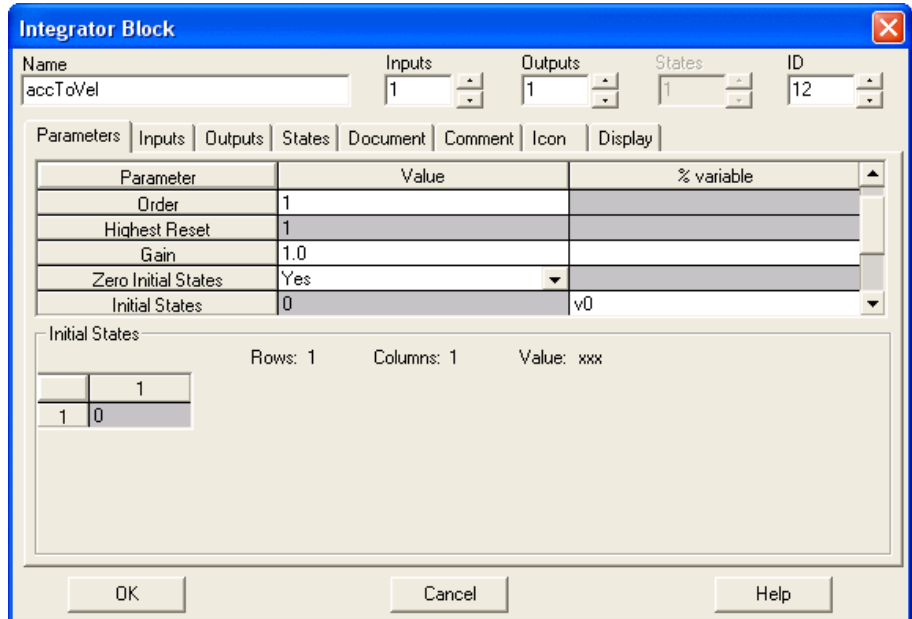

Figure 4-19. Integrator Block Properties Dialog Box: Parameters Tab
The **Integrator Block** properties dialog box is displayed. The **Parameters** tab is selected and all properties are set to their default values. Figure 4-19 shows the **Integrator Block** properties dialog box as it appears during step 3.
3. Verify that the **Parameters** tab of the **Block Properties** dialog box is selected, as shown in Figure 4-19.